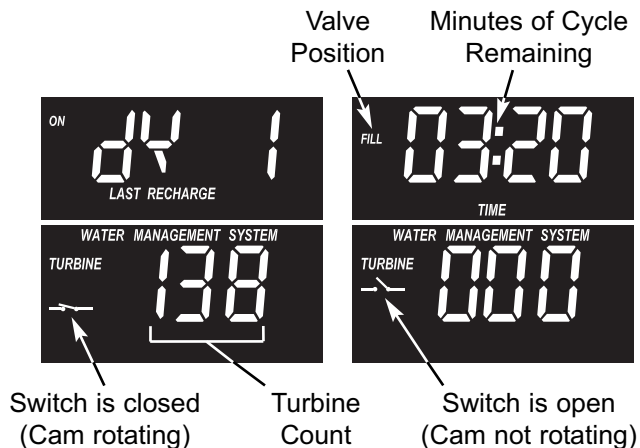

FIG. 39
1. Press and hold the DATA button for 3 seconds until one of the two displays in Figure 39 is shown, then release. The number in the top part of the display, after "dY", is days since the last recharge.
3. Symbols in the display indicate POSITION switch operation (See Figure 39).